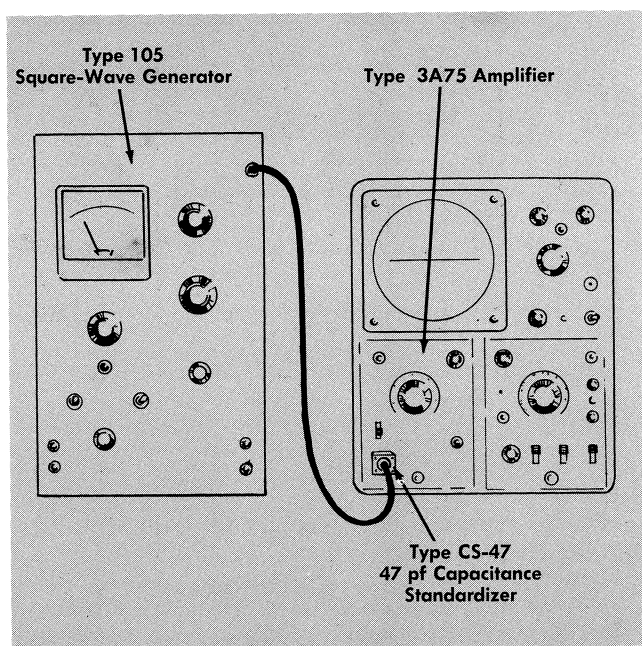

Fig. 12. Tektronix Type 105 Square-Wave Generator connected to the Type 3A75 Amplifier for input capacitance standardization.
1. Connect the 1-kc output of the square-wave generator through the coaxial cable and the 47-picofarad capacitance standardizer (or the standardized probe) to the INPUT connector of the Type 3A75 module. (Fig. 12 shows the Tektronix Type 105 Square-Wave Generator properly connected to the Type 3A75 for this step.)